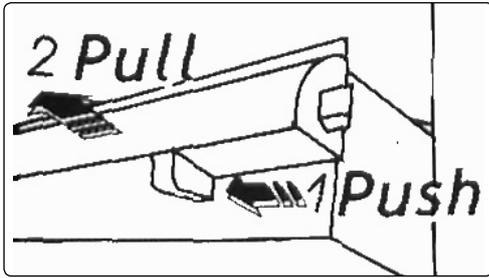

Fig.1
- 4.1. Each drawer is fitted with a catch mechanism on the right hand side of the drawer underneath the handle. To open drawer push the catch to the left to release the catch and pull the drawer open (fig.1).